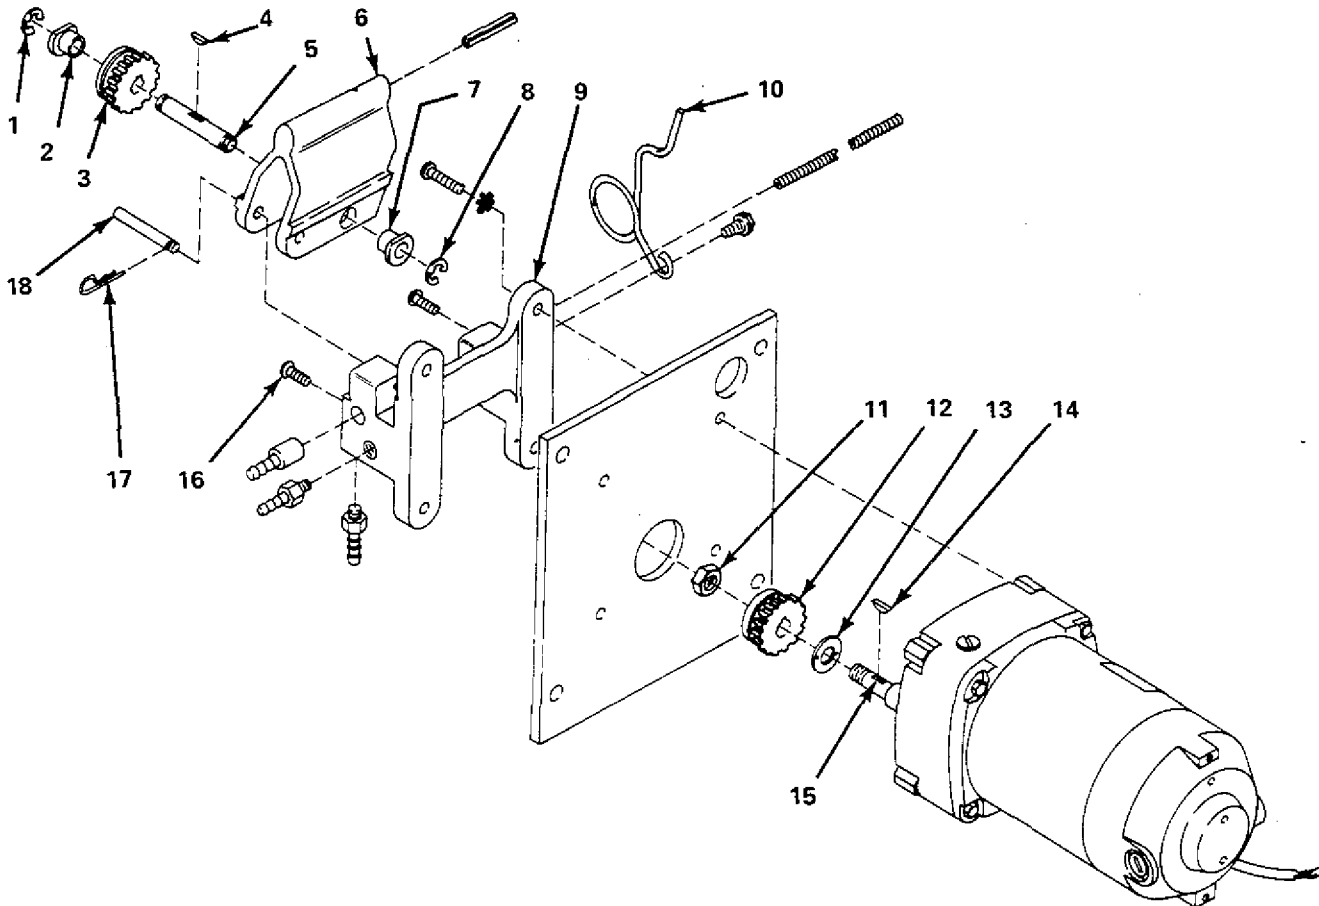

Figure 5-2. Drive Roll Gear Removal & Installation
5-3. REMOVAL OF DRIVE ROLL GEARS (Figure 5-2)
1. Grasp tension spring (item 10, Figure 5-2) at the top and pull tension spring (10) outward until it disengages from cover (6).
2. Remove pin (17) from the back side of shaft (18).
3. Pull out shaft (18) from drive roll cover (6) and lift off drive roll cover (6).
4. Pull off snap rings (1 & 8) from shaft (5).
5. Pull out bearing (2) from drive roll cover (6).
6. Slide shaft (5) out of drive roll cover (6) until drive roll gear (3) drops out.
7. Ensure that key (4) remains in the slot in shaft (5).
5-4. INSTALLATION OF DRIVE ROLL GEARS (Figure 5-2)